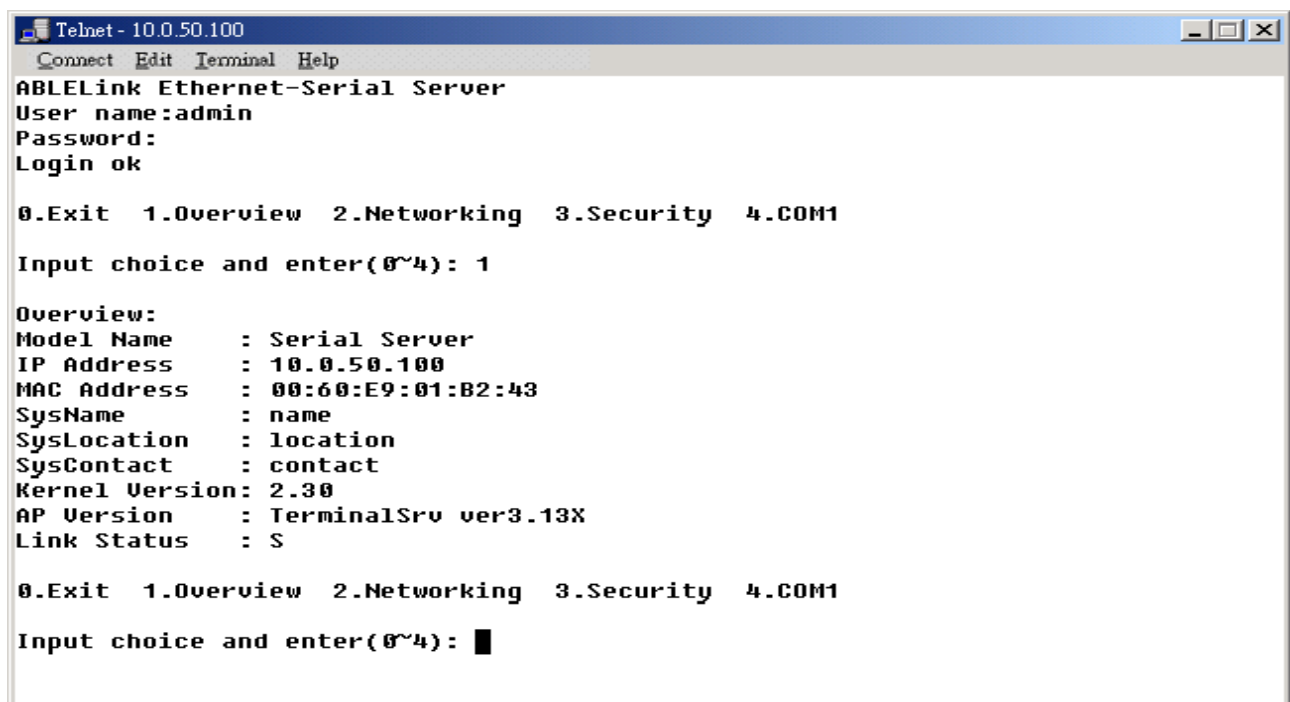

Figure 3.6 Overview
->Select "1" from "**Input choice and enter (0~4).**" to enter overview page as following: (ref Figure 3.6)